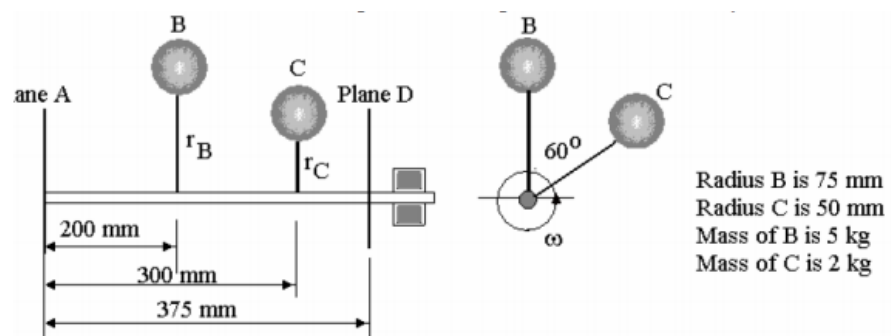

Figure 3(b)/ Gambarajah 3(b)
- CLO1 (b) A rotating shaft with mass is shown as in Figure 3 (b). Two masses with a radius of 60 mm are placed at A and D to produce a balanced system. Calculate the mass at A and D